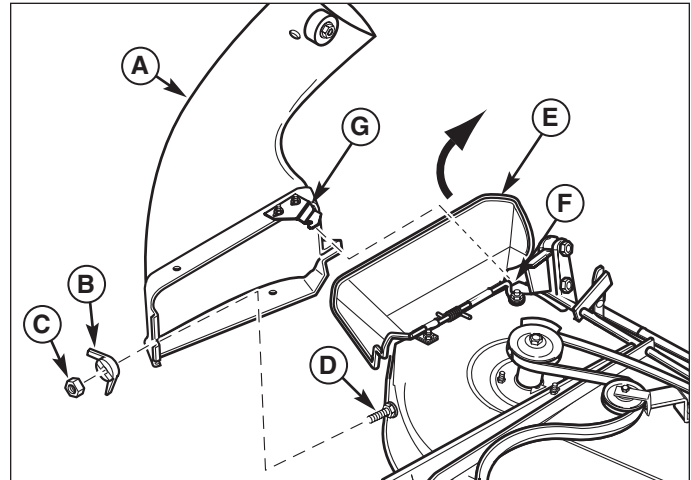
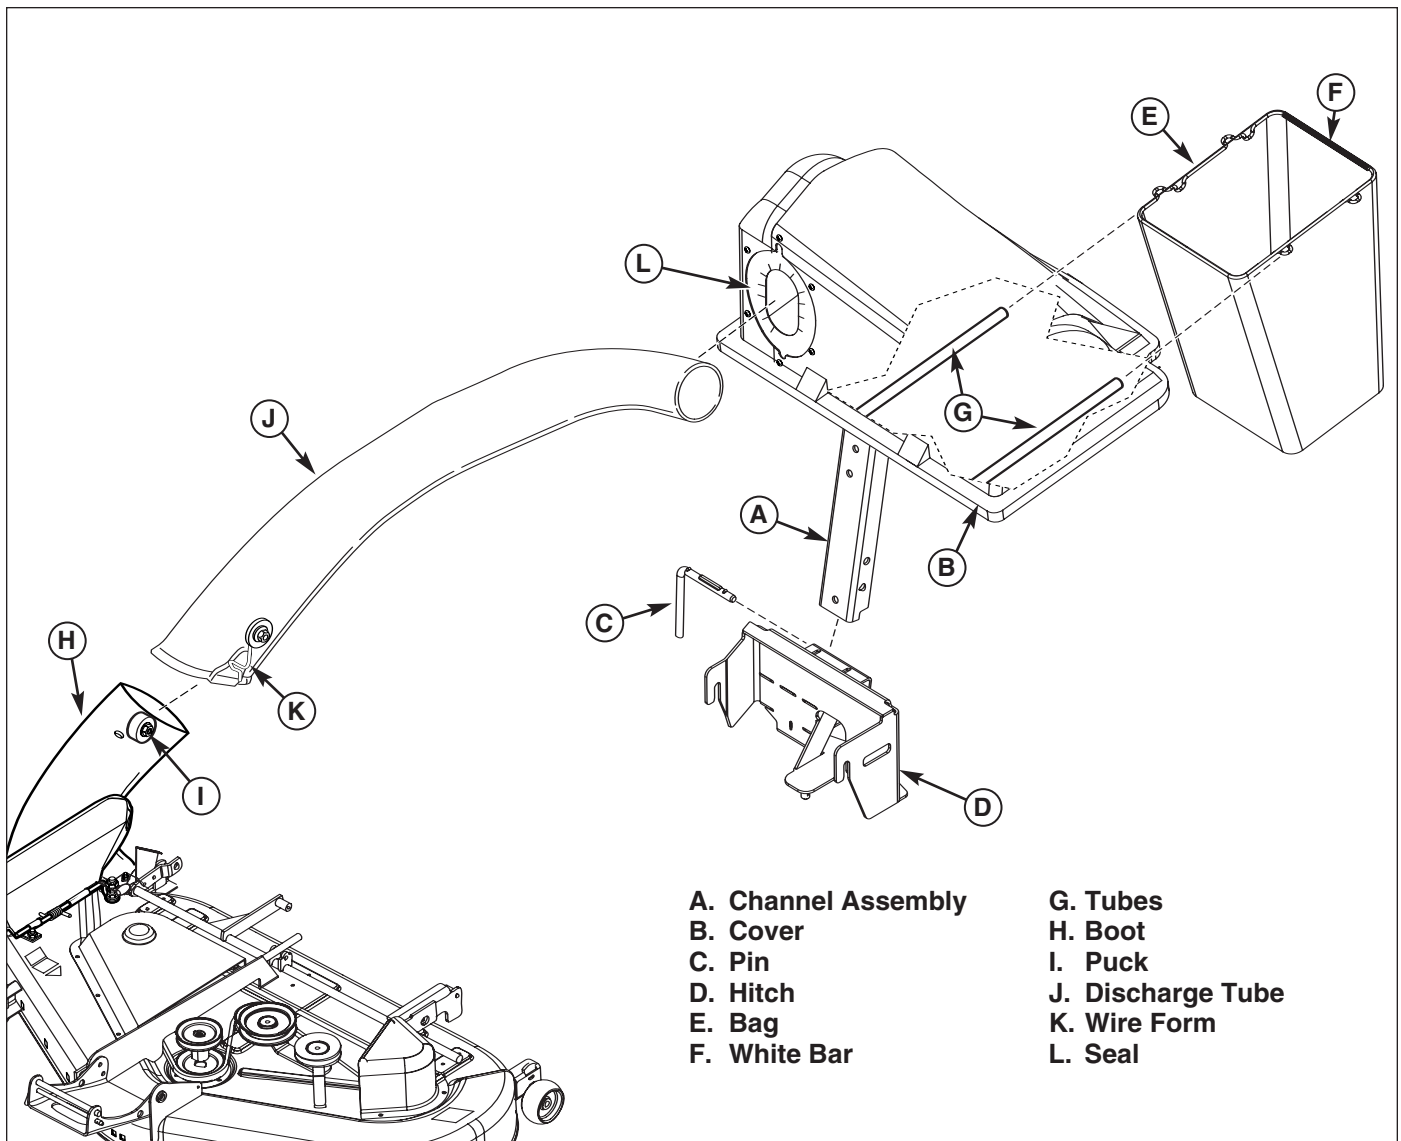

Figure 16. Install Lower Discharge Chute 38" Free Floating Mowers
Figure 17. Normal Installation & Removal
1. Lift discharge deflector up (E, Figure 16).
2. Slide the notch of bracket (G) on to deflector hinge rod (F).
3. Secure the front of lower chute (A) to carriage bolt (D) using wing nut (B).
4. Mount the the channel assembly (A, Figure 17) into hitch (D). Secure by inserting pin (C) into the right side of hitch (D) and turning pin (C) counterclockwise to lock in place.
5. Pivot cover (B) up. Install bags (E) with white bar (F) towards the rear.
6. Slide discharge tube (J) into seal (L).
7. Attach the discharge tube (J) to boot (H) and secure the tube by moving wire form (K) down over metal puck (I).
1. Disconnect the discharge tube (J, Figure 17) from boot (H) by moving wire form (K) up and out from metal puck (I). Remove discharge tube (J) from seal (L).
2. Lift up cover (B) remove and empty bags (E).
3. Remove pin (C). Lift and remove channel assembly (A) and cover (B) from hitch (D).
4. Lift discharge deflector up (E, Figure 16).
5. Loosen wing nut (B).
6. Slide lower chute (A) off carriage bolt (D) and deflector hinge rod (F).